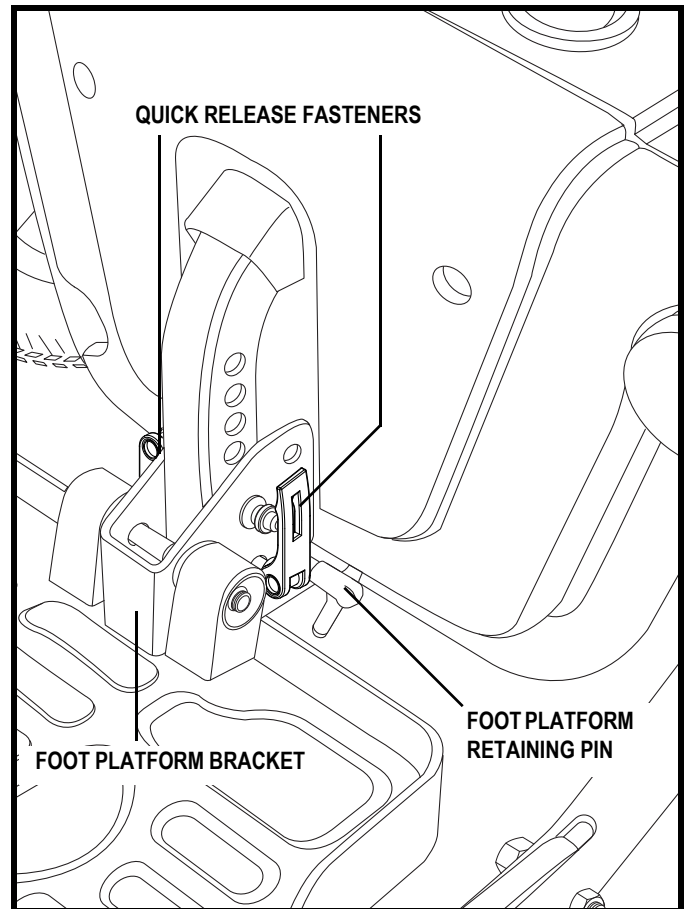

Figure 21. Foot Platform Adjustment
1. Remove the quick release fasteners from the foot platform bracket. See figure 21.
1. Remove the fasteners from the foot platform bracket. See figure 21.